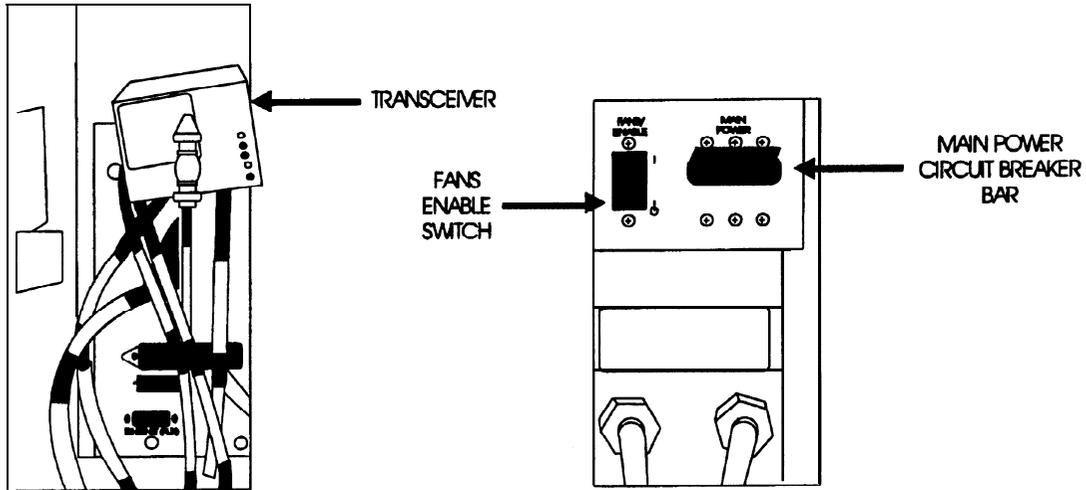

Figure 2-8. IG Control Panel
2.1.8 Image Generator (IG). The following controls are on the IG Control Panel on the lower front of the IG and are shown in Figure 2-8.